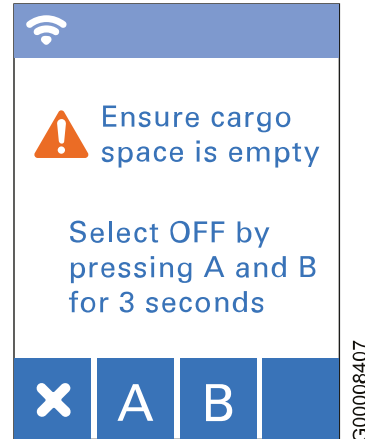

Fig. 39 Turn temperature control off
2. Press  to select **Temp Control Off**. The display will show the text in **Fig. 39**.